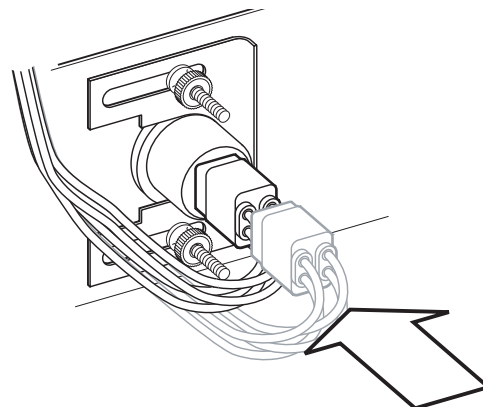

Fig. 3 Attach electrical harness to lamp.
**CONNECTING THE FIXED-LAMP HARNESS** (Fig.3 )